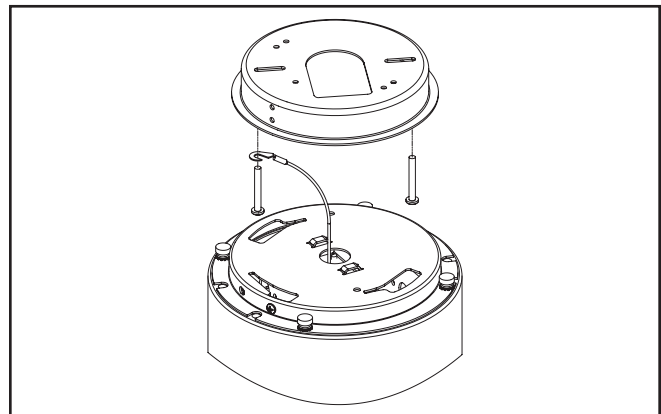

Figure 4.
4. Attach tether under one Junction Box mounting screw (Figure 4.).
3. Attach rear wall mount tether to splice box mounting screw, like what is shown in Figure 4.